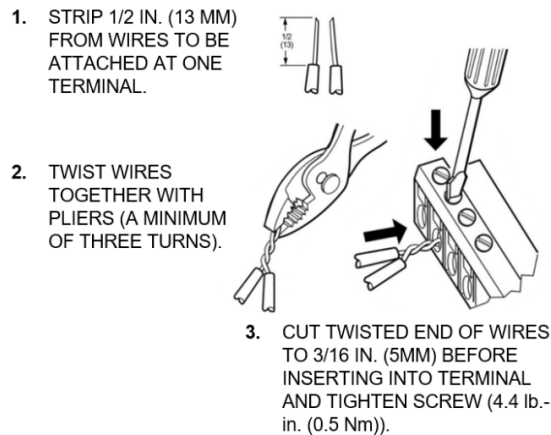

Fig. 15. Attaching two or more wires at terminal block
When attaching two or more wires to the same terminal, other than 14 AWG (2.0 mm²), be sure to twist them together. Deviation from this rule can result in improper electrical contact, see Fig. 15 below.
- If two or more wires are being inserted into one terminal location, twist the wires together a minimum of three turns before inserting them, see Fig. 15 below.